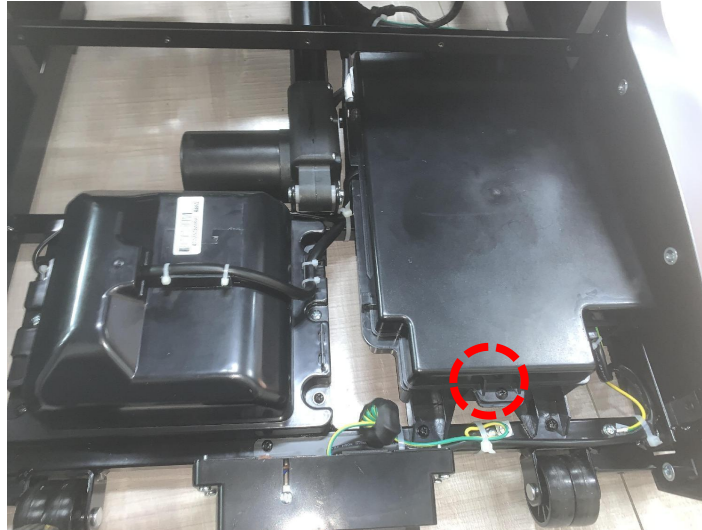

Figure 2
2. Remove one screw of the drive box cover (Figure 2)